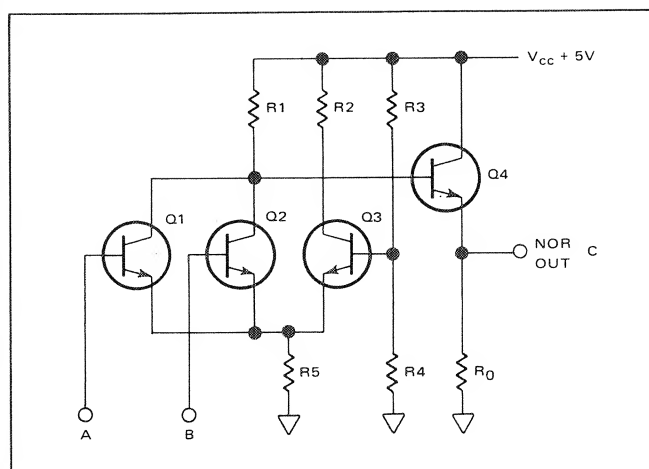

Figure 5.21 - Basic ECL Nor Gate
5.106 A number of ECL integrated circuits are used in the counter. ECL circuits are used wherever high-speed switching is required. The basic Nor function is shown in figure 5.21. Logic levels used are: